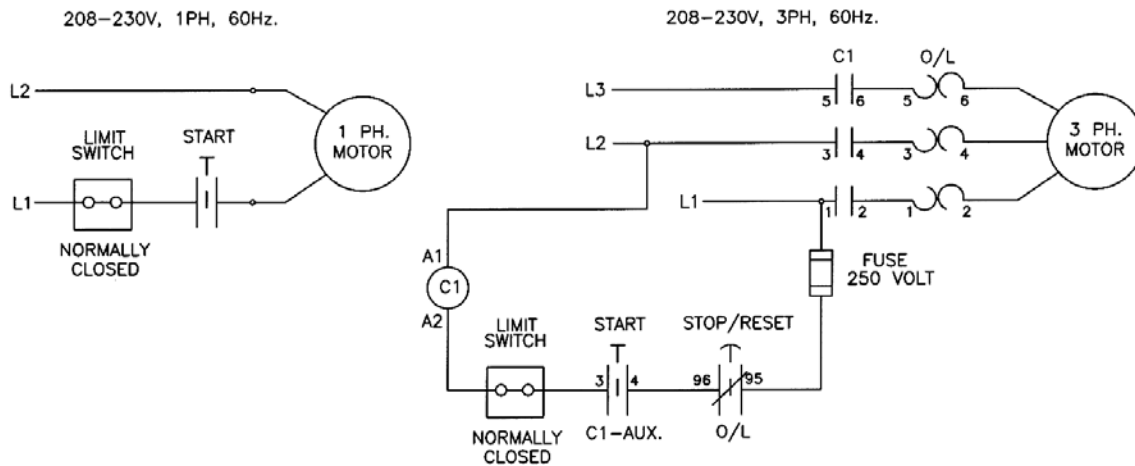

Figure 10 – Electrical Diagram
2. Bolt power pack to the mounting bracket on the power side tower using four (4) 5/16"-18UNC x 1"LG. hex head bolts, four (4) 5/16" ID lock washers, four (4) 5/16" ID flat washers and four (4) 5/16"-18UNC hex nuts. Do not tighten.
4. A **certified electrician** must connect the 230Volt/1Ph power to the motor. The electrical diagram is provided, refer to **Figure 10**.